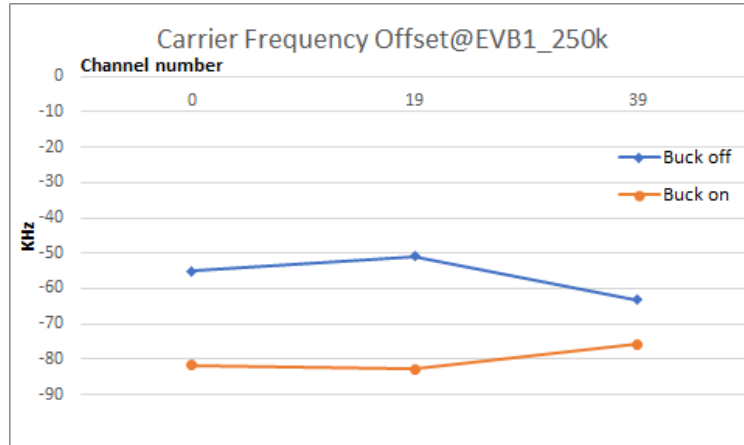

Fig 9. Carrier frequency offset @ 250 kbit/s
- The carrier frequency offset measurement result is in the “Demodulation Results” field. The carrier frequency offset measurement with the GFSK data rate of 250 kbit/s is shown in Fig 9.